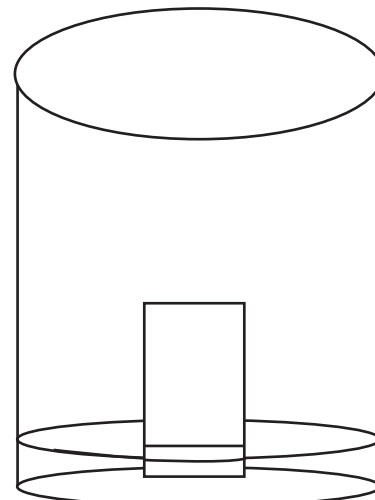

Figure 2
11. When all drops are on the plate and have been dried, students should put on lab gloves. The plate should be placed in the solvent jar so that it is standing vertically, leaning against the side of the jar with the pencil line at the bottom. See figure 2. Cap the jar tightly. The level of solvent should be about halfway between the bottom of the plate and the horizontal line.